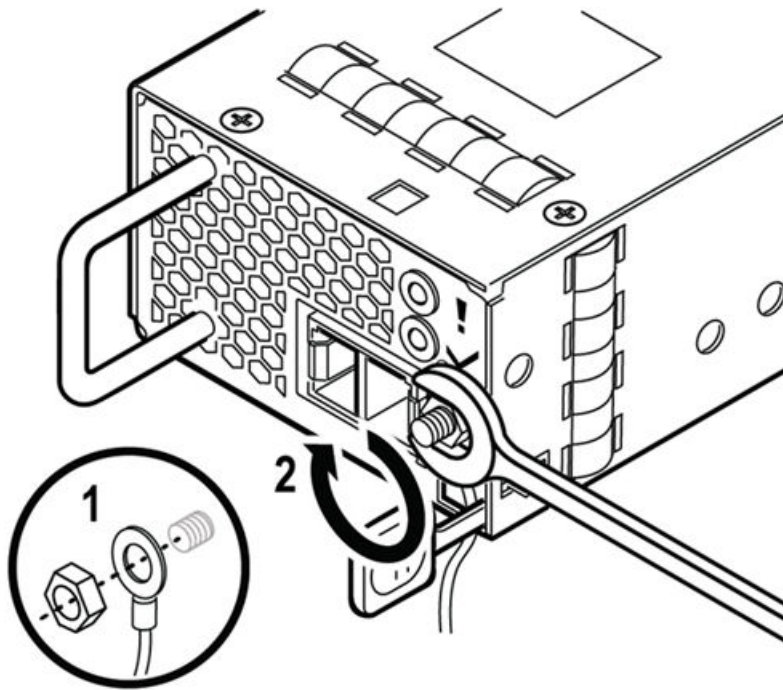

Figure 158: Securing the Ground Wire
- b Slide the ring terminal of the ground wire onto the grounding post (callout 1 in Figure 158).
See Figure 158 on page 209.